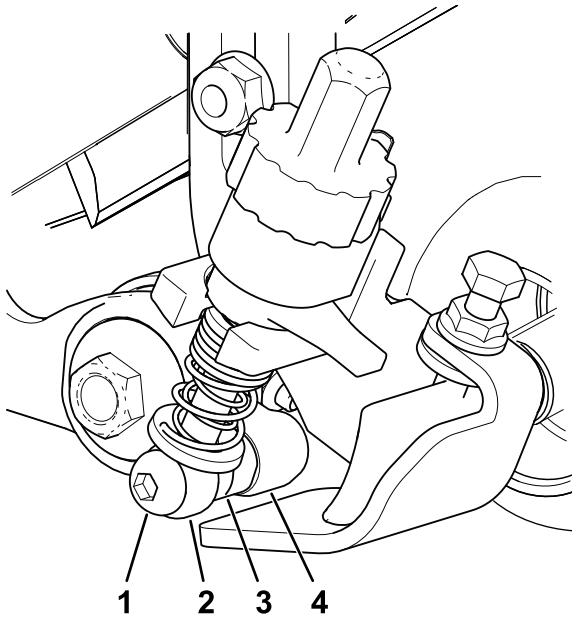

Figure 12
6. While the reel is restrained, torque the hex-head of the drive-box shaft to 135 to 150 N·m (100 to 110 ft-lb); refer to Figure 12.
- On the idler assembly side, align the adjuster-arm rod of the HOC bracket with the adjuster collar on the idler assembly and secure it with a shoulder bolt as shown in Figure 12; torque the shoulder bolt to 20 to 26 N·m (15 to 19 ft-lb).